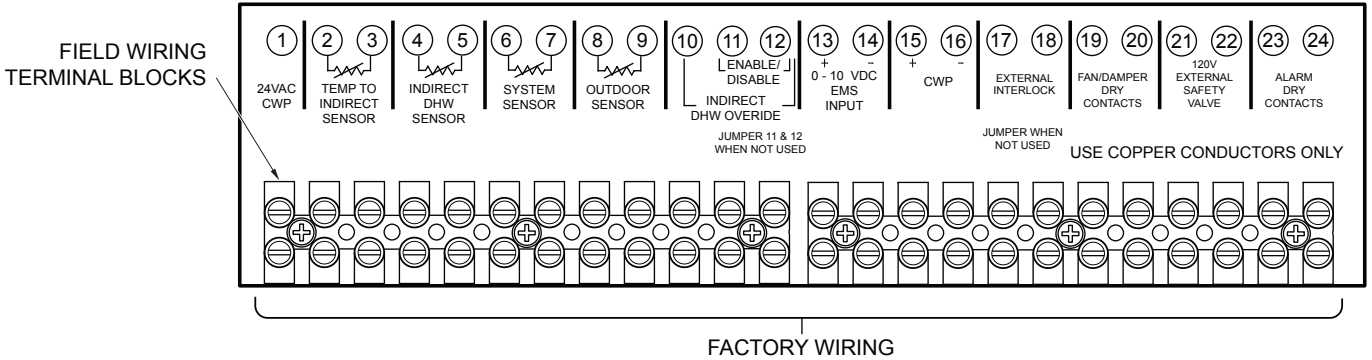

Figure 41. Low-Voltage Field Wiring
2. To enable this remote control function, set DIP switch 5 to the UP position on the PIM. DIP switch 5 Toggles between an EMS (UP) signal or a demand signal from the VERSA (DOWN). DIP switch 2 on the PIM toggles between a Direct Drive (UP) input and a Target Temperature (DOWN) setpoint.
4. Connect an Energy Management system or other auxiliary control signal to the terminals marked 0-10V (+/-) on the field wiring terminals. See **Figure 41**. Caution should be used to ensure that the +0-10V connection does not create a short to ground.
Connect the Enable/Disable (terminals 11, 12) wiring to the field wiring terminals as shown in **Figure 41** and in place of the factory installed jumper. Alternately, any dry contact closure (including a remote thermostat) across these terminals will enable the XVers boiler to run.
1. When using a System Sensor (S3), connect the sensor wires to the terminals marked (6, 7) SYSTEM SENSOR. See **Figure 41**.
1. If using an Outdoor Sensor, connect the sensor wires to the terminals (8 & 9) marked OUTDOOR SENSOR. See **Figure 41**.
Connect the indirect tank sensor to the terminals (4 & 5) marked INDIRECT DHW SENSOR. See **Figure 41**. Caution should be used to ensure neither of these terminals becomes connected to ground. When using an indirect DHW Sensor to control tank temperature, contact closure is required across the indirect override connections for proper operation.
2. Connect the system supply sensor to terminals 6 and 7 on the field wiring strip located on the Master boiler. See **Figure 41**.
3. Connect the Outdoor sensor (if used) to terminals 8 and 9 on the field wiring strip located on the Master boiler. See **Figure 41**.
4. Connect the Enable/Disable wiring to terminals 11 and 12 on the field wiring strip located on the Master boiler. This connection must be provided through dry contacts closure. See **Figure 41**. Applying 24VAC to these terminals will result in blowing the fuse on PIM.